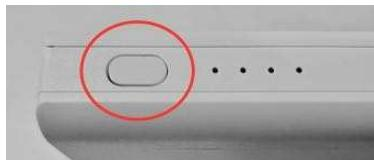

Figure 16.1. The power button on the RAVPower Battery.
**Resolution:** Press the button on the side of the battery (Figure 16.1).